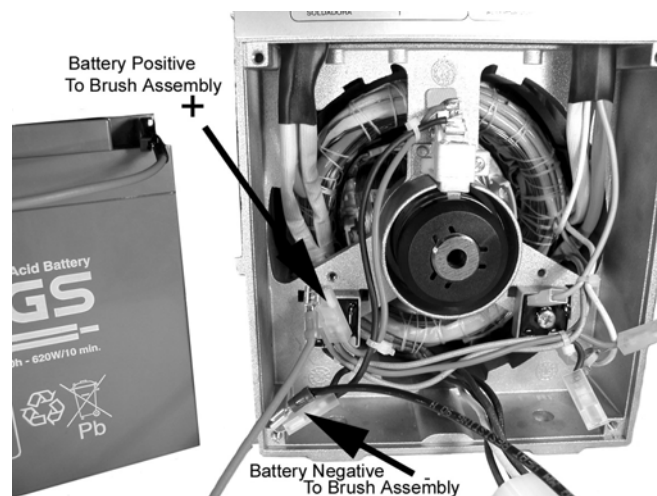

Figure 1
2. Locate the positive (red) and negative leads (black) from the left bridge rectifier to the brush assembly (figure 1)